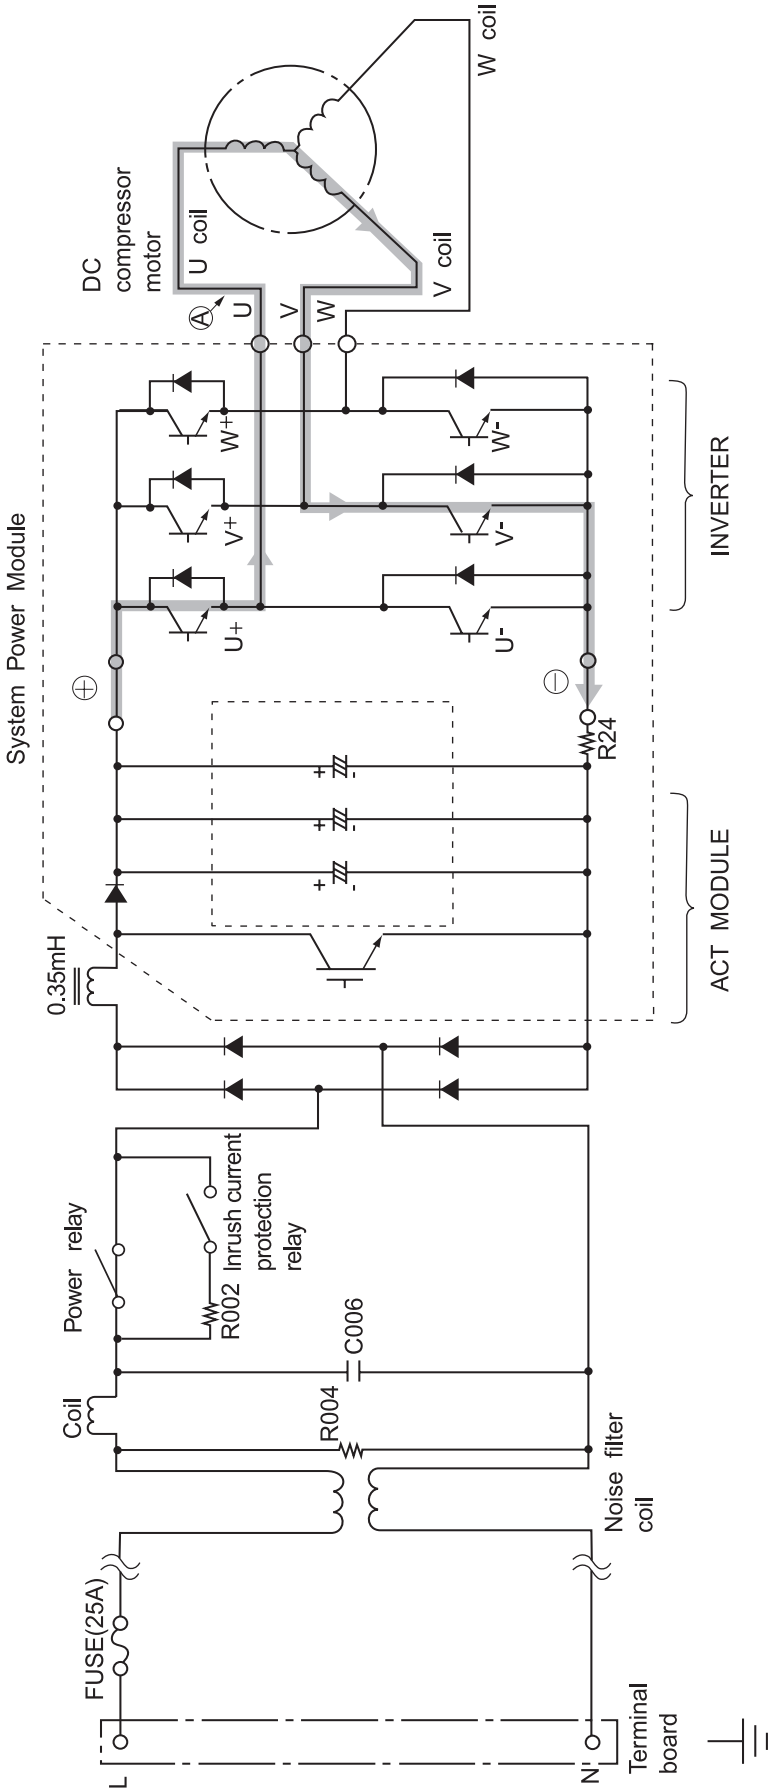
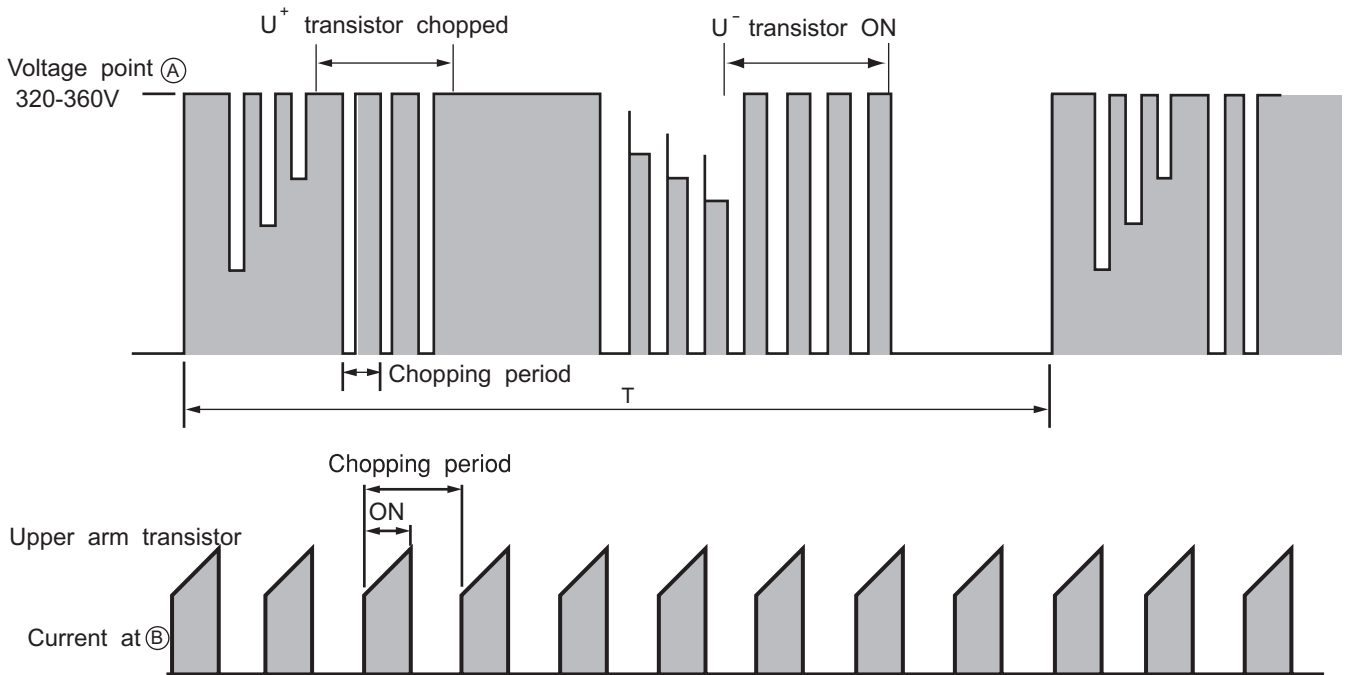

Fig. 3-1 System power module circuit (U+ is ON, V- is ON)
Fig. 3-3 Voltage waveform at each point
- Fig. 3-1 shows the system power module and its peripheral circuits. (Current ACT module and power module are combined into one unit.) The three transistors on the positive ⊕ side are called the upper arm, and the three transistors on the negative ⊖ side, the lower arm.
※ At point E:  $U^+$  is ON,  $V^-$  is ON (circuit in Fig. 3-1)
- Fig. 3-3 shows voltage / current waveform at each point shown in Figs. 3-1 and 3-4. First half of upper arm is chopper, second half is ON, and first half of lower arm is chopper, second half is ON.
- When power is supplied  $U^+ \rightarrow U^-$ , because of that  $U^+$  is chopped, current flows as shown below; ⑥
- (1) When  $U^+$  transistor is ON:  $U^+ \text{ transistor} \rightarrow U \text{ coil} \rightarrow V \text{ coil} \rightarrow V^- \text{ transistor} \rightarrow \text{DC current detection resistor} \rightarrow \text{Point } \textcircled{B}$  (Fig. 3-1)
- Since current flows at point ⓑ only when U+ transistor and V- transistor is ON, the current waveform at point ⓑ becomes intermittent waveform as shown in Fig. 3-3. Since current at point ⓑ is approximately proportional to the input current of the air conditioner, input current is controlled by using DC current (Id) detection resistor.